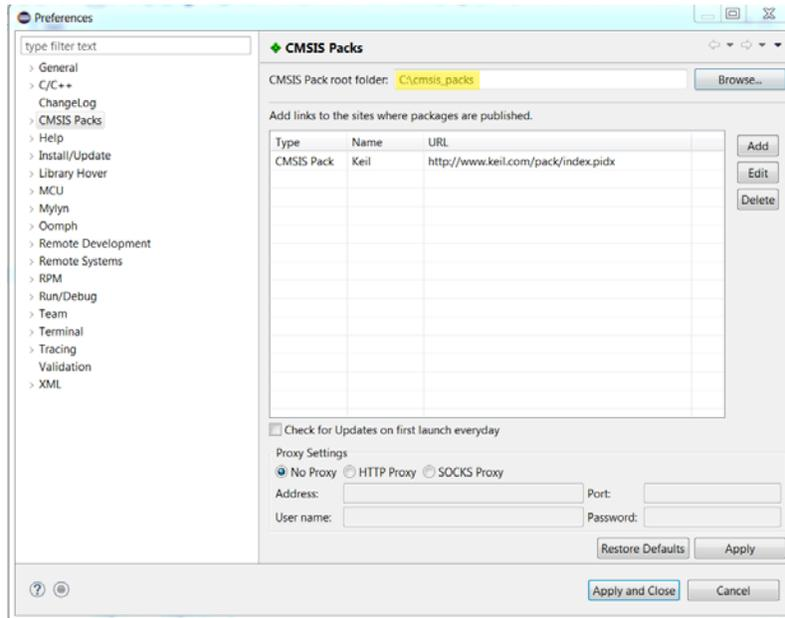

Figure 2. Configuring the CMSIS-Pack root folder
2. Once the IDE is open, navigate to **Window > Preferences**. On the left panel, select **CMSIS Packs**. In the **CMSIS Pack root folder** field, type/choose a location where you would like your CMSIS-Packs to be installed — for example, *c:\cmsis_packs* — and click **Apply and Close** (Figure 2).